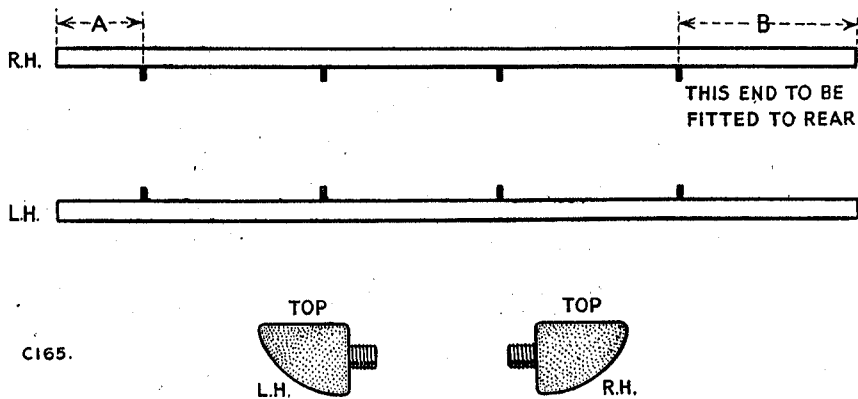

Fig. 1 Identification of sealing rubbers.
2. The two front sill rubbers are interchangeable either R.H. or L.H., but rear rubbers are handed due to the difference in the position of the studs as shown at 'A' and 'B', Fig. 1. Dimension 'B' must be fitted to the rear of the car.
3. The rubbers must be fitted with the flat surface upwards, as shown at Fig. 1.